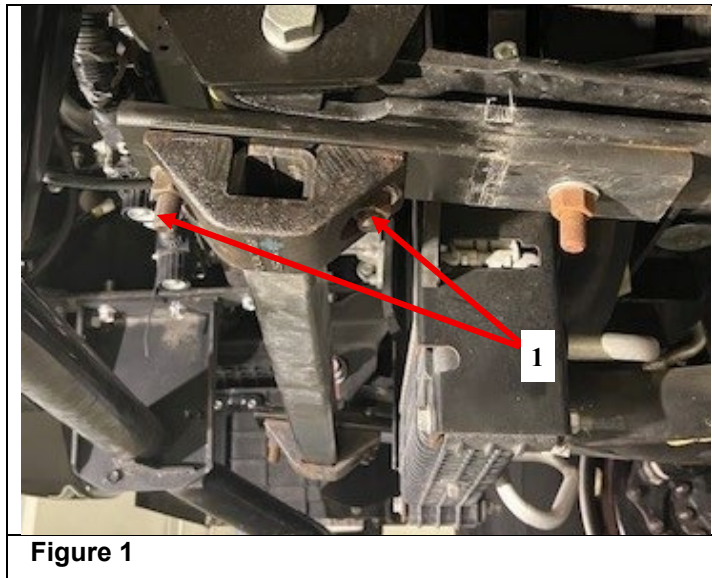

Figure 1
2. Using a deep well socket, remove the two driver's side nuts and washers (1) from the stabilizer bar bracket. (See Figure 1.)